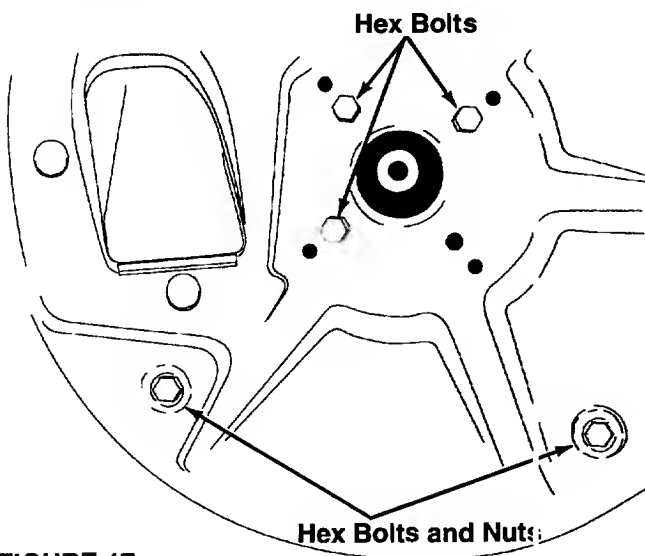

FIGURE 17.
17. Remove the inner housing and mounting adapter by removing the five hex bolts and two hex nuts. See figure 17.